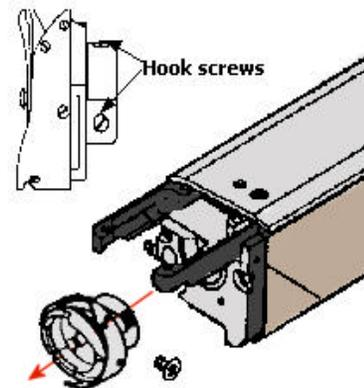

Fig.5
8. Loosen the three flat-head screws securing the hook. See **fig. 5**. *Note: You will have to rotate the main shaft degree wheel to reach all three screws. (Always rotate in the direction that increases the numbers. This is the direction of sewing. When rotating the main shaft always rotate in the direction of sew.)*